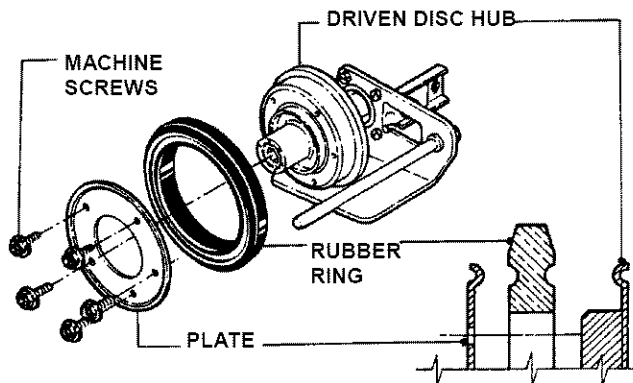

FIGURE 4.13
- Remove the five machine screws and plate, which secure the rubber ring to the driven disc hub. See Figure 4.13.